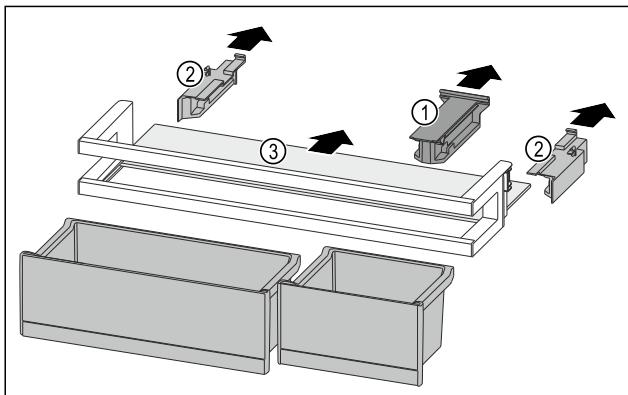

Fig. 92
- Pull off the holding part Fig. 92 (1).
- Pull off the side parts Fig. 92 (2).
- Remove the shelf Fig. 92 (3).